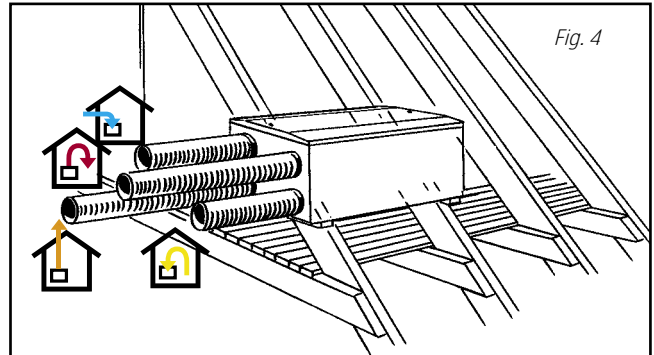

Fig. 4
- All duct connections on one side of the unit (Fig. 4)